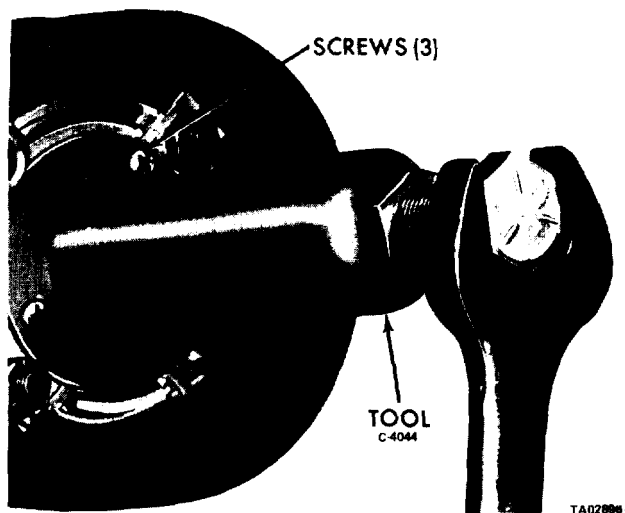

Figure 21-11. Pressing Shaft Out of Bearing.
(1) Install steering shaft remover C-4044, and press the shaft out of the bearing. Remove the bearing housing from the shaft (figure 21-11).